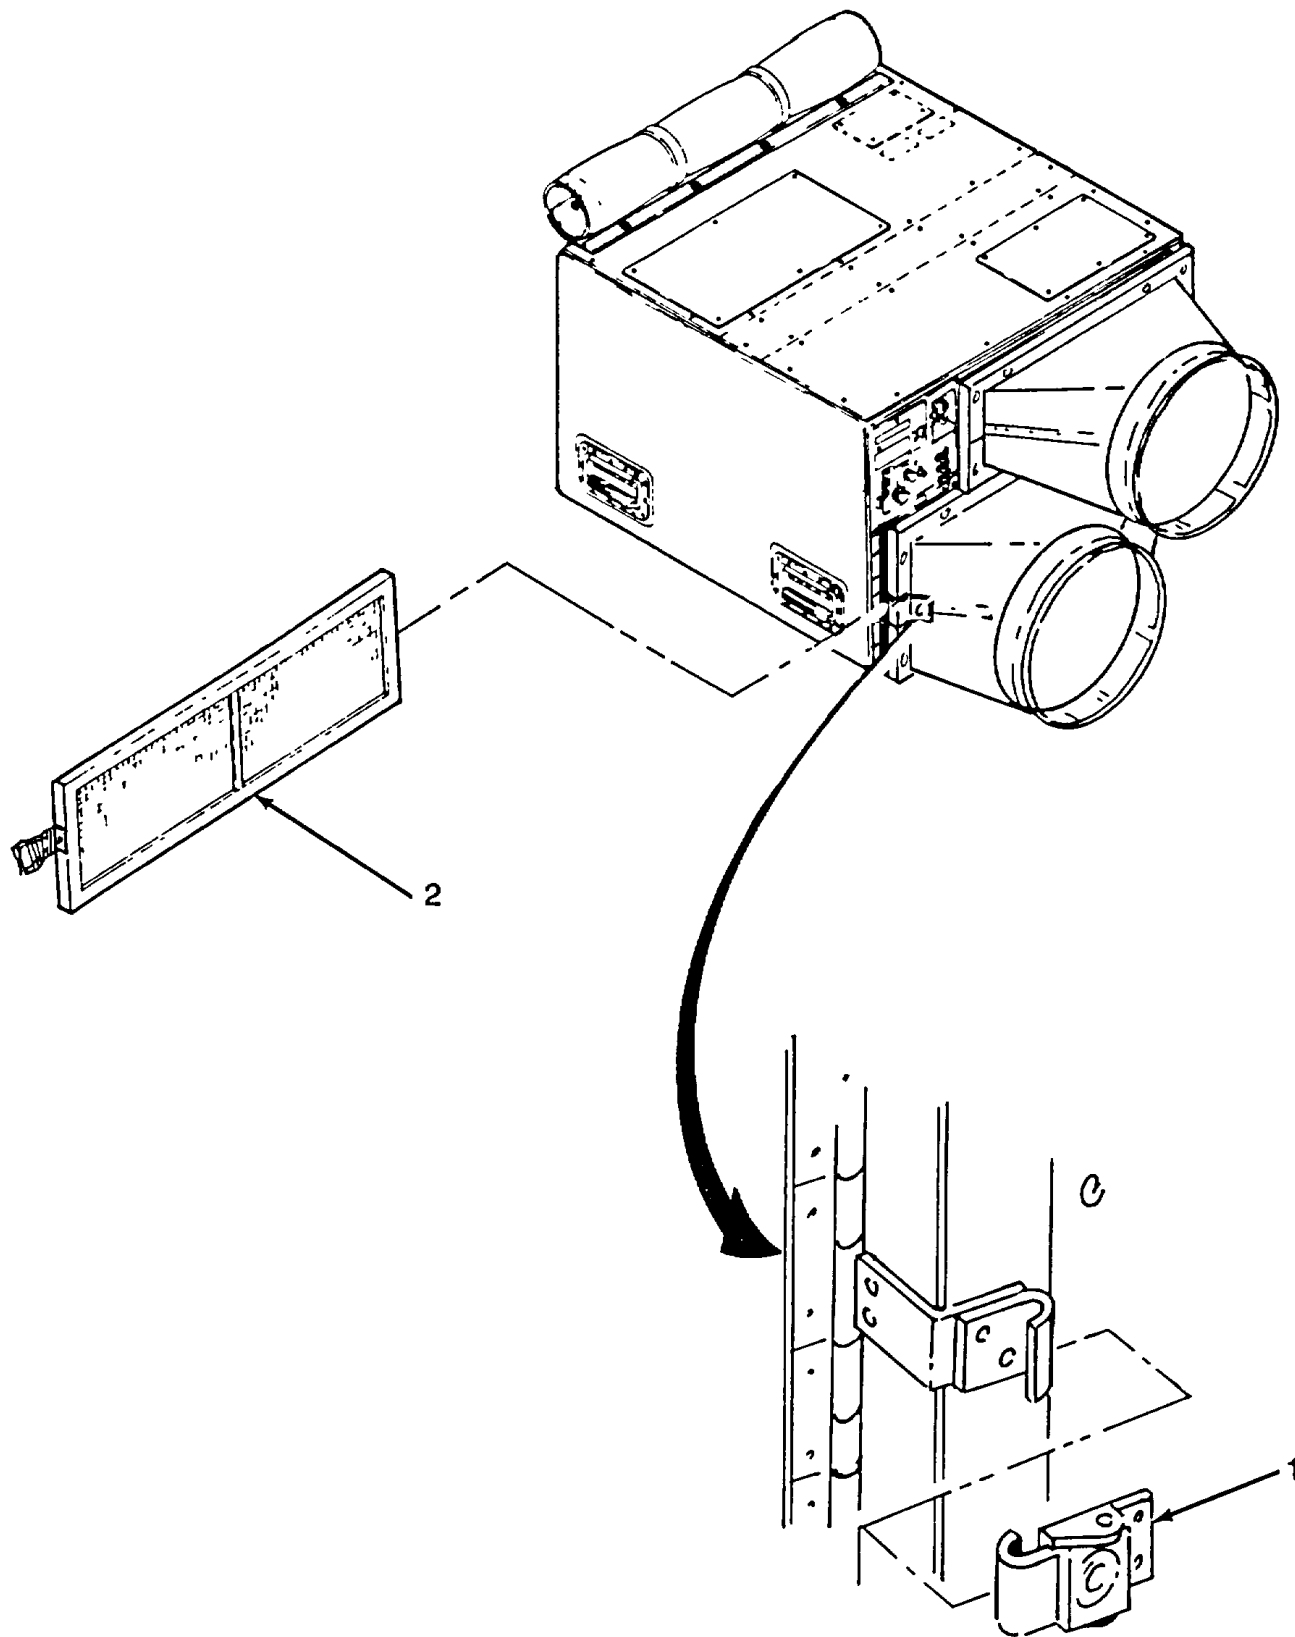

Figure 4-23. Filter, Return Air.
**4-32. FILTER, RETURN AIR (Figure 4-23).**